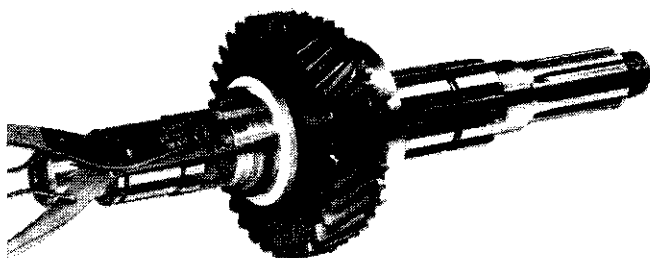

Fig. 2B-40 Second Gear and Thrust Washer Installation
**NOTE:** The first-second synchronizer clutch sleeve shift fork groove must face the rear of the mainshaft (fig. 2B-41).
- (5) Install third gear on mainshaft and install blocking ring on gear.